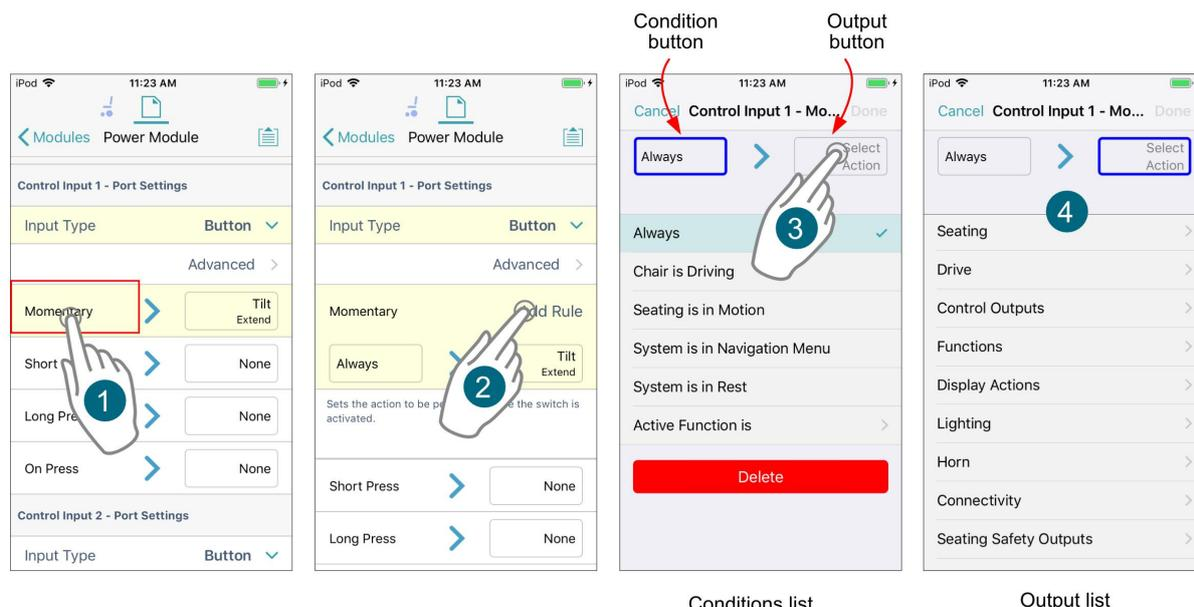

Figure 85: Assigning an output where rules already exist for slot
4. Tap on the left-hand side of the control IO slot (Figure 85 ①) to expand the slot and reveal the **Add Rule** button.
5. Tap on **Add Rule** (Figure 85 ②), which opens the conditions list.
6. Tap on the output button (Figure 85 ③) to display the output list (Figure 85 ④).